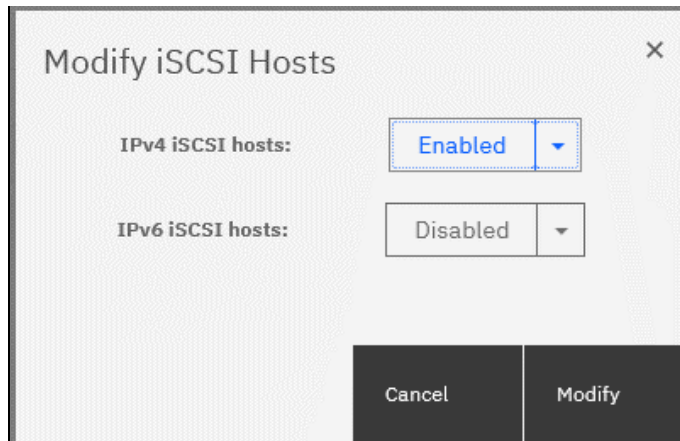

Figure 7-23 Modifying the port for host connectivity
- Make any necessary changes as prompted in the dialog box shown in Figure 7-23 and then, click **Modify**.